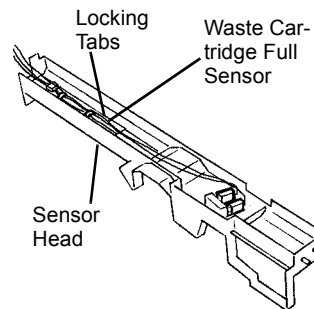

Figure 2 Removing Waste Cartridge Full Sensor
5. Remove Waste Cartridge Full Sensor (Figure 2).